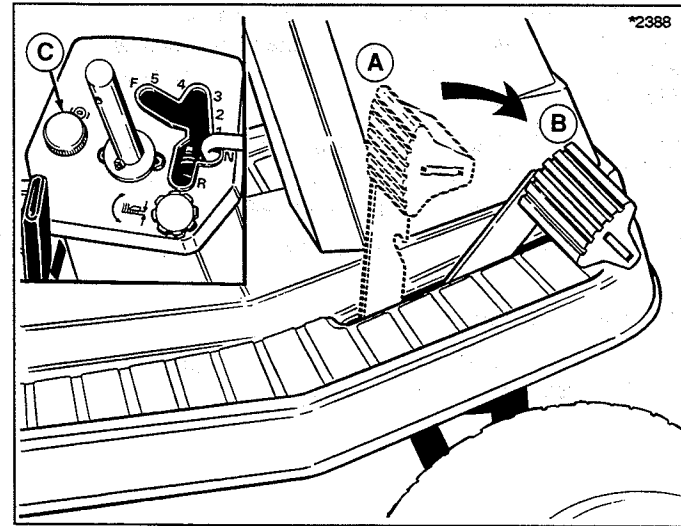

Figure 5. Clutch/Brake/Parking Brake Pedal
- Before leaving operator's position, set the parking brake and disengage the electric clutch. (The parking brake is shown set in figure 5.) Set the engine speed control to 1/2 throttle. Turn the key to OFF and remove it. Wait for all moving parts to stop.
Refer to figure 5. Depressing pedal from position A to B disengages transmission drive belt and applies the rider brake. Parking brake is applied at position B when parking brake control knob (C) is pulled up with pedal fully depressed.